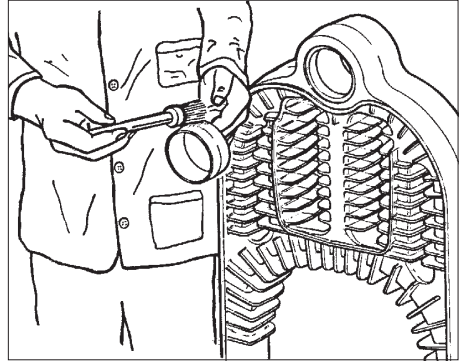

Fig. 7
4.03 (Fig. 7) Using the tin in the assembly kit, spread a thin layer of minium on the link and its housing, using a soft brush.